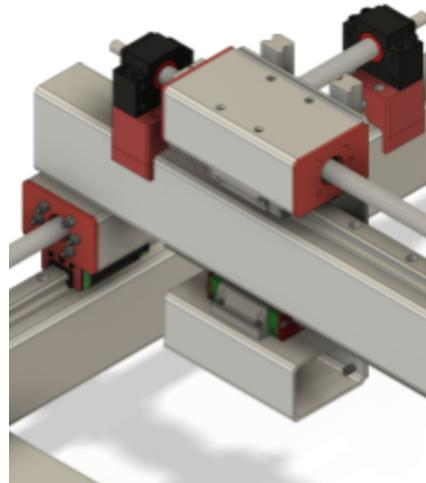

Figure 12.12
14. Pass the inset face of the Ball Screw Face Plate Rear over the unused side of the ball screw and slide it all the way up the screw. Insert the inset side of the printed part into the X-Axis roller beam as shown in Figure 12.12.